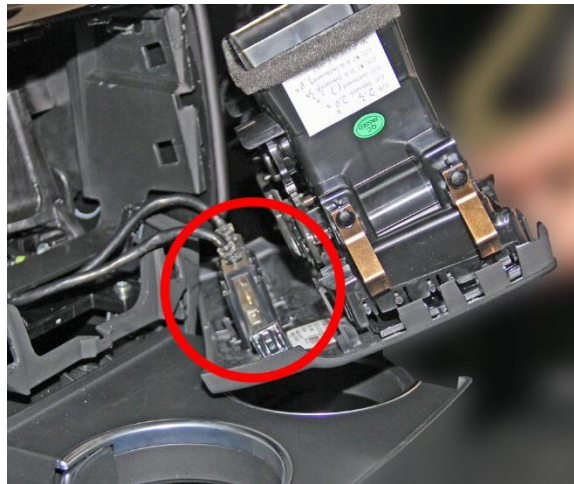

Figure 23. Center console rear USB ports
- c. Disconnect the USB ports from the trim panel (Figure 23.).